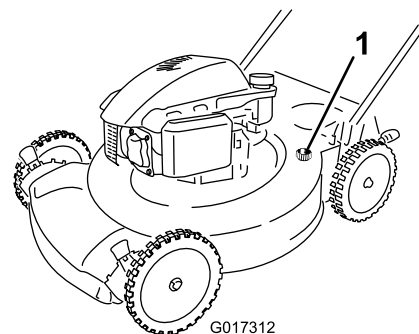

Figure 32
4. Attach a garden hose that is connected to a water supply to the washout port on the machine housing (Figure 32).